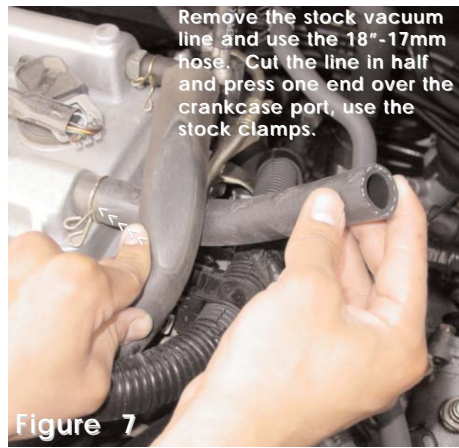
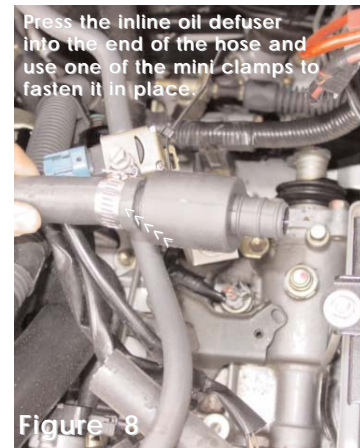
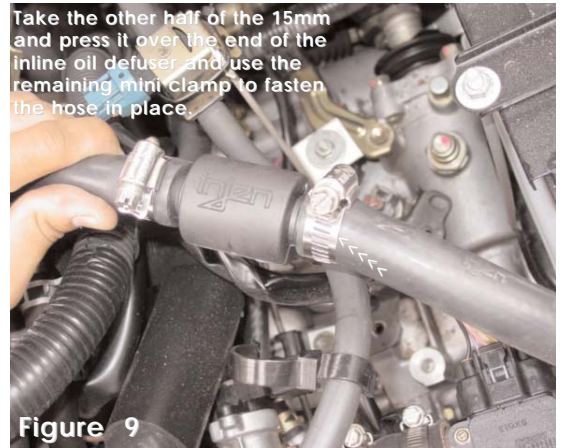

Figure 7
Figure 8
Figure 9
7. Take the 17"- 15mm heater hose and cut it in half. Take one end and press it over the port the port located on top of the crankcase. (See fig. 7) Take the inline oil defuser and press it into the hose on the crankcase port, use one of the mini-clamps. (See fig. 8) Take the remaining hose hose press it over the end on the inline oil defuser and use the mini clamp in this kit. (See fig. 9)